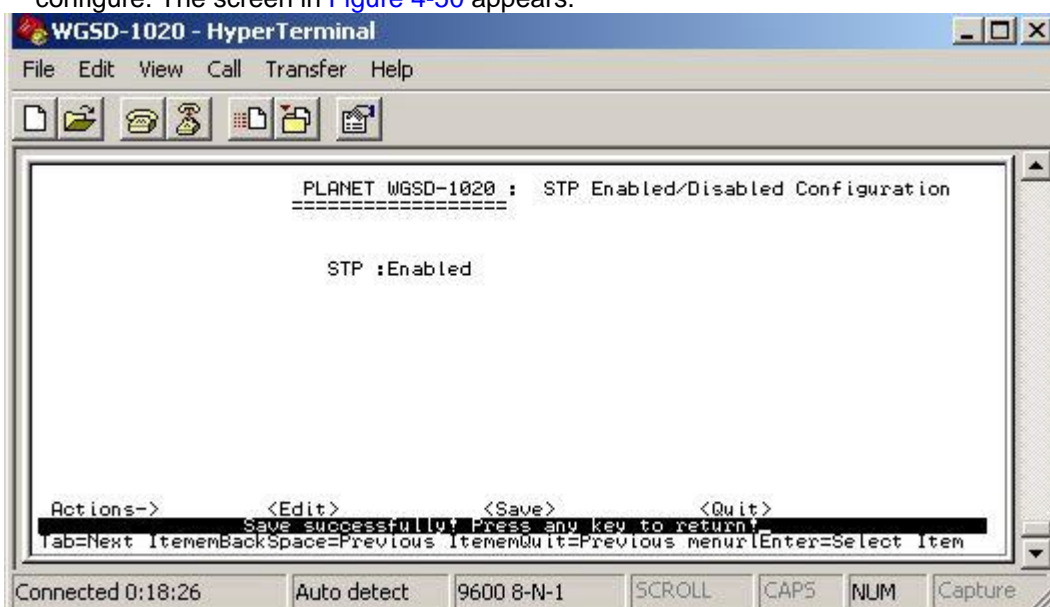

Figure 4-50 STP enable save successfully screen
2. After setup completed, press” **Ctrl-A**” to “**Action menu**” and choose “**save**” to save the current configure. The screen in Figure 4-50 appears.